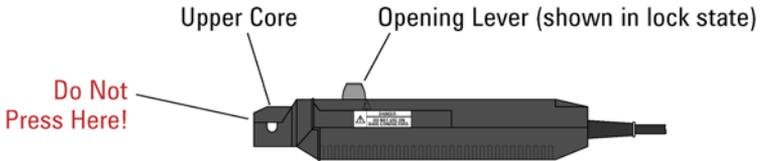

Figure 4. Use the Opening Lever
- 4 Using the probe’s opening lever, clamp the sensor head around the conductor to be measured as shown in Figure 4.
- 4 Slide the probe sensor Opening Lever into the Locked position. Refer to Figure 4 on page 12 for the location of the lever.